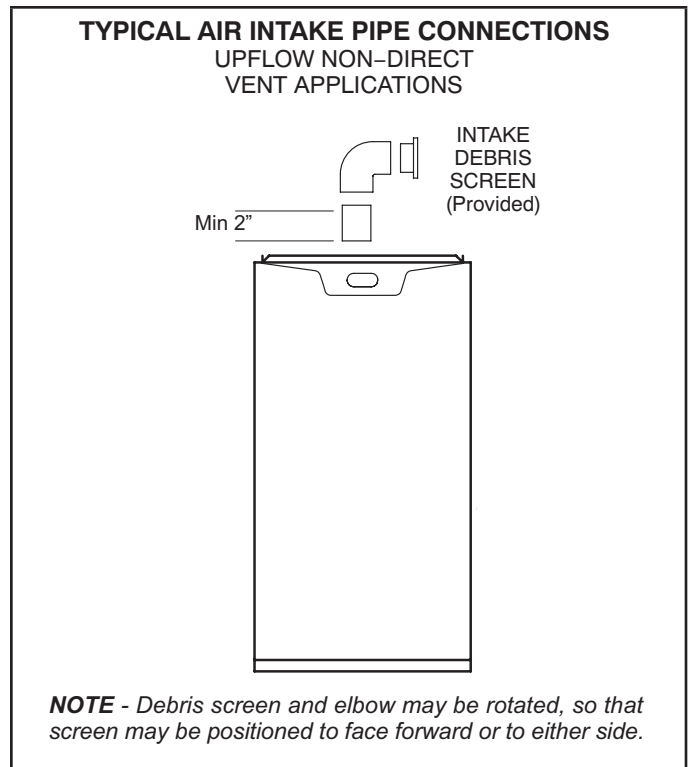
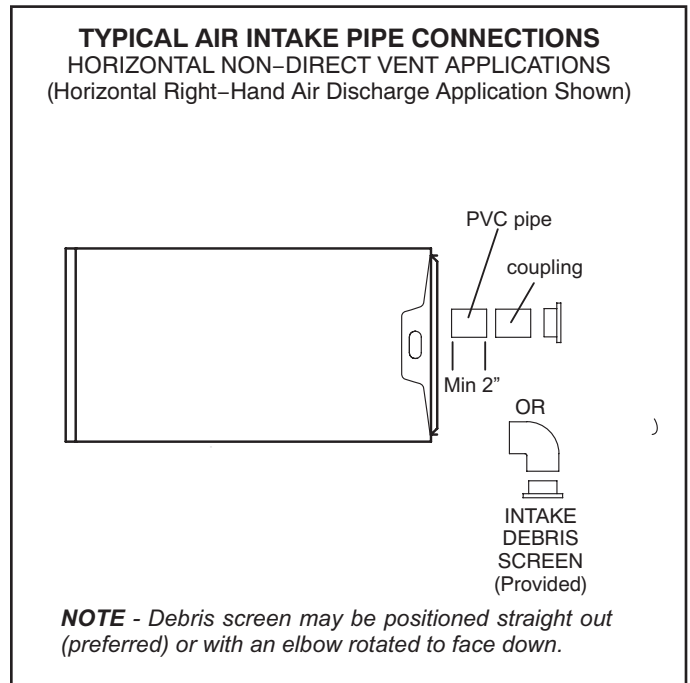

FIGURE 28
FIGURE 29
- 1 - Use field-provided materials and the factory-provided air intake screen to route the intake piping as shown in FIGURE 28 or FIGURE 29. Maintain a minimum clearance of 3" (76mm) around the air intake opening. The air intake opening (with the protective screen) should always be directed forward or to either side in the upflow position, and either straight out or downward in the horizontal position. **The air intake piping must not terminate too close to the flooring or a platform. Ensure that the intake air inlet will not be obstructed by loose insulation or other items that may clog the debris screen.**